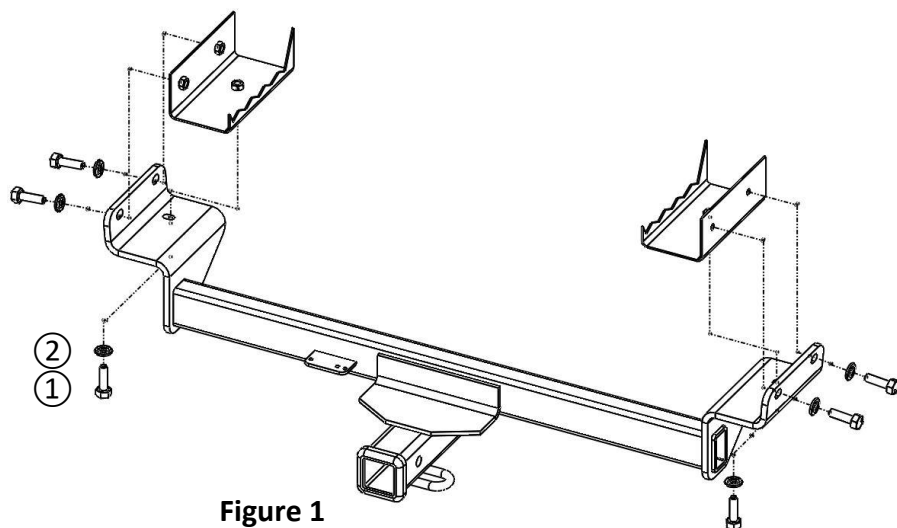

Figure 1
2. Install hitch: Raise hitch into position and loosely install (3) M10 bolts ① and (3) conical washers ②, both sides, see **Figure 1**.